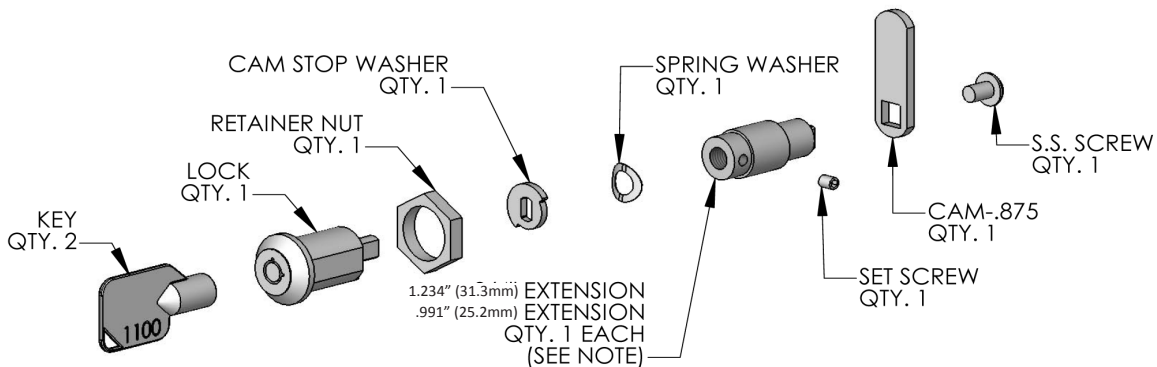

Figure 12
Two (2) lock extensions are supplied with the lock. Use the longer extension for a 3/4" thick overlay panel and the shorter one for a 5/8" thick panel. Assemble the lock extension, cam stop washer, spring washer, and set screw to the lock as shown in Figure 12 and 13.